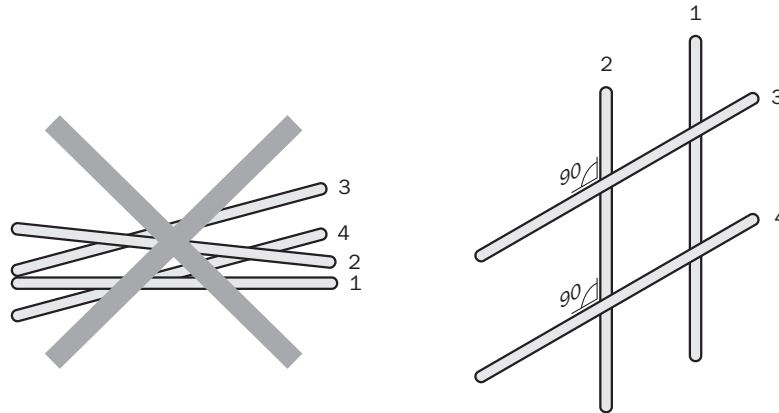

Figure 14: Cross cables at right angles
- Cables in groups 1, 2 and 3, 4 must be crossed at right angles see Fig. 14